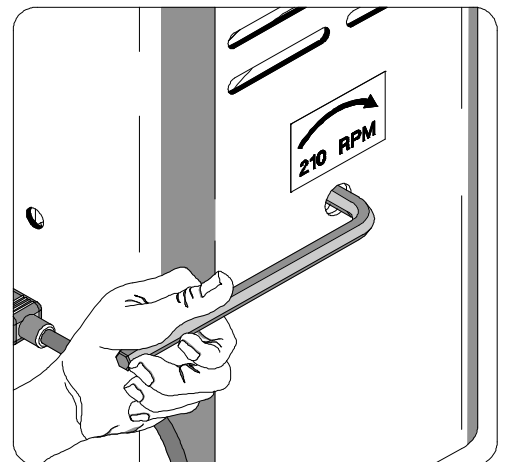

Figure 3-14 MANUAL CYCLING
3. Insert the 10mm hex wrench through the hole in the center of the rear cover and engage it in the socket in the press flywheel. See Figure 3-14.